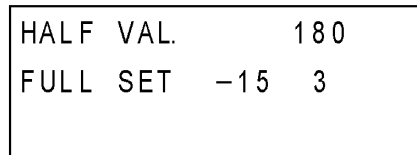
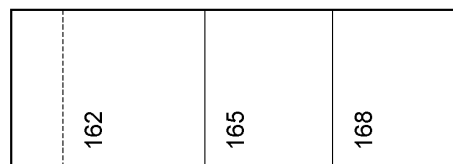

Fig. 21
Fig. 22
- (2) Press the "RET" key. The display shifts as shown in Fig.21.
- (3) Press the "F" key. The display shifts to the Full Cut Blade Length Adjustment Mode.
- (4) Use the numeric keys to enter the differential from the half cut step numbers and the step length.
- (5) Press the "RET" key to write the above entries into the EEPROM. The machine execute three lines of full cut operation forward and backward around the central step number according to the specified step length as shown in Fig.22. After printing, the display returns as shown in Fig 21 that enables to select the initial items.